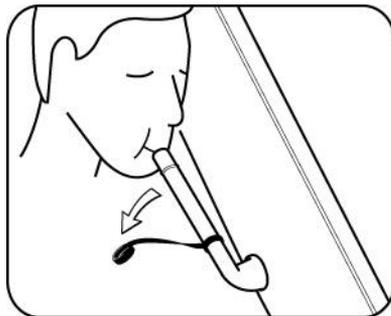

FIGURE 10
3. Inflate yellow support arch by mouth using red oral tube (See Figure 10).